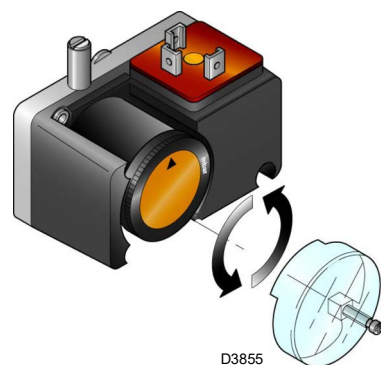

Fig. 29
- Adjust the maximum gas pressure switch (Fig. 29, page 29) to the end of the scale.
- adjust the minimum gas pressure switch (Fig. 29, page 29) on the gas train to the start of the scale;
Adjust the minimum gas pressure switch (Fig. 29) after having adjusted the burner, the gas valves and the gas train stabiliser. With the burner operating at maximum output: